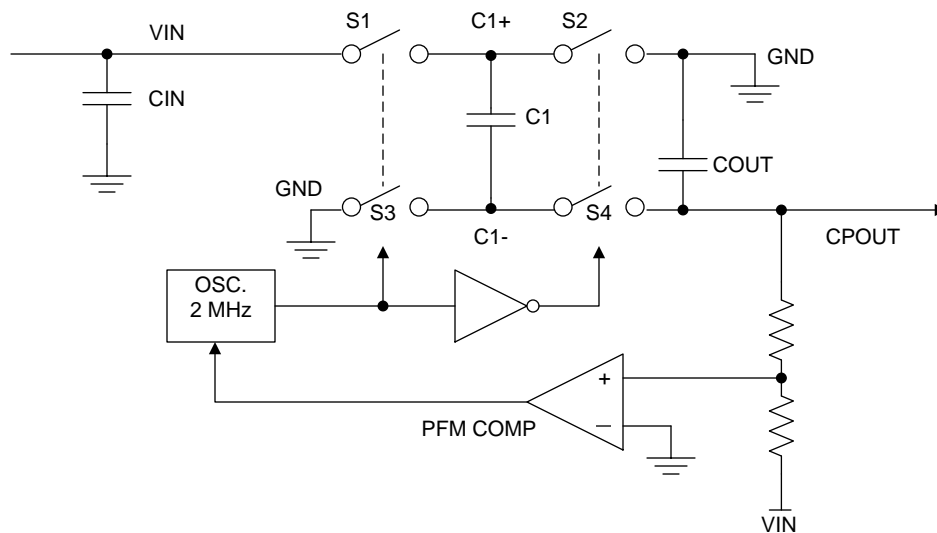

图 17. Voltage Inverting Principle
The voltage inverter portion of the LM27761 contains four large CMOS switches which are switched in sequence to invert the input supply voltage. Energy transfer and storage are provided by external capacitors. 图 17 shows the voltage switches S2 and S4 are open. In the second time interval, S1 and S3 are open; at the same time, S2 and S4 are closed, and C1 is charging C3. After a number of cycles, the voltage across C3 is pumped into V_{IN} . Because the anode of C3 is connected to ground, the output at the cathode of C3 equals $-(V_{IN})$ when there is no load current. When a load is added the output voltage drops is determined by the parasitic resistance (R_{DSON} of the MOSFET switches and the equivalent series resistance (ESR) of the capacitors) and the charge transfer loss between the capacitors.
- R_{SW} is the sum of the ON resistance of the internal MOSFET switches shown in 图 17. (1)